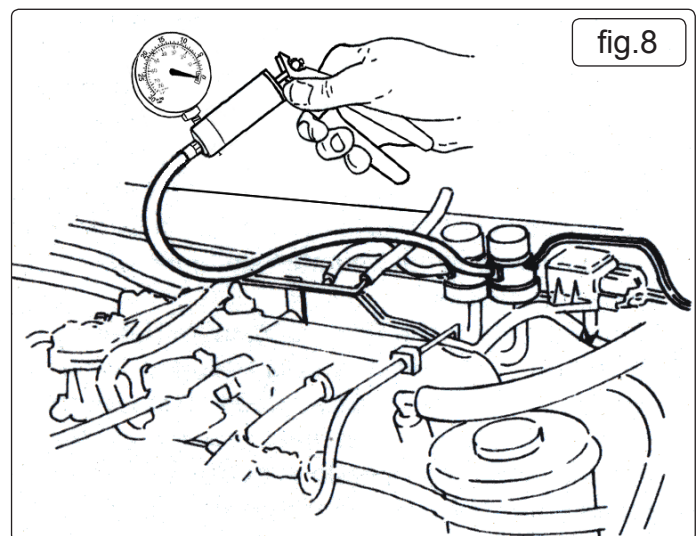

fig.8
7.2.2. Locate the solenoid to be tested and remove the line that goes to the component being tested. Connect the VS4021 to the solenoid port (fig.8) and start the engine. With the system turned off there should be a zero gauge reading. Now turn the system to the 'on' position and a gauge reading equal to the manifold vacuum should be observed, if no reading exists remove the vacuum supply line and test for manifold vacuum at this point. If the vacuum does exist this indicates that the solenoid is faulty or it is not receiving a 'switch on' voltage (use a multimeter to test this). If no vacuum exists trace the supply line back to the vacuum source checking for kinks and breaks.